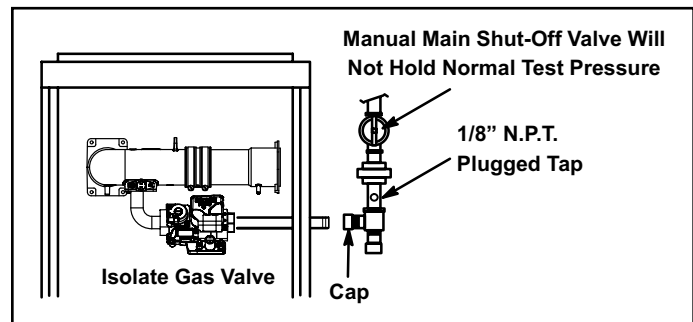

Figure 56.
5. A 1/8" N.P.T. plugged tap or pressure post is located on the gas valve to facilitate test gauge connection. See Figure 56.
When testing pressure of gas lines, gas valve must be disconnected and isolated. See Figure 56. Gas valves can be damaged if subjected to pressures greater than 1/2 psig (3.48 kPa).